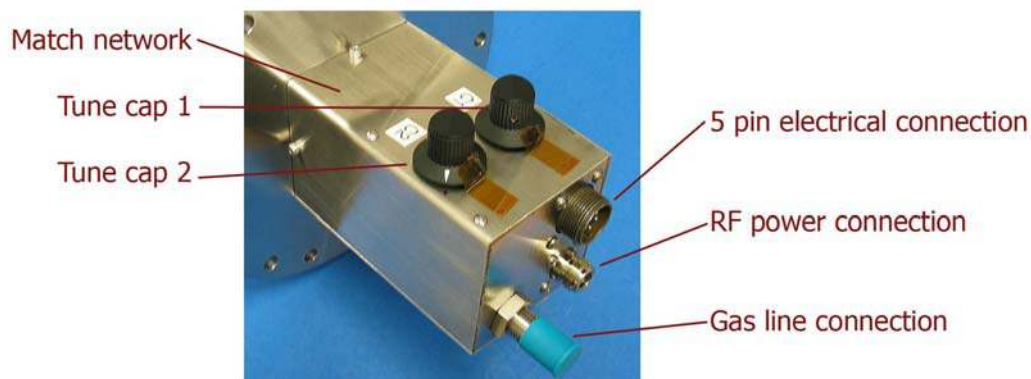

Figure 4. Matching network connections.
The connections to the matching network are shown in Figure 4. The adjustment knobs for C1 and C2 are typically taped to protect from unwanted movement. The gas line connection on the atmospheric side is a 1/4" VCR style. The power supply electrical connections are on the top of the matching network.
- STEP 3. Attach the neutralizer cables to the output connections (Figs. 4 and 5).